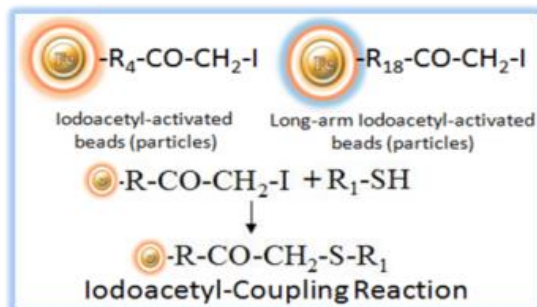

Fig.1 Iodoacetyl-sulfhydryl group coupling reaction
**BcMag™ Iodoacetyl-activated Magnetic Beads** are uniform, silica-based superparamagnetic beads coated with a high density of Iodoacetyl functional groups on the surface. It is designed to enable fast, efficient, and covalent immobilization of protein, peptides, and other ligands through their sulfhydryl groups (-SH) for affinity purification procedures. At physiological to alkaline circumstances (pH 7.2 to 9) in either aqueous or organic solvents with 20- 30% DMSO or DMF, iodoacetyl-activated supports react with sulfhydryl groups, resulting in stable thioether bonds. These reactions are often carried out in the dark to prevent the formation of free iodine, which can react with tyrosine, histidine, and tryptophan residues (Fig.1). The hydrophilic surface ensures beads low nonspecific adsorption, excellent dispersion, and easy handling in various buffers. BcMag™ Iodoacetyl-activated Magnetic Beads are most suitable for conjugation of a larger protein. BcMag™ Long-arm Iodoacetyl-activated Magnetic Beads are recommended to conjugate small peptides because the long-arm (20-atom) hydrophilic linker may reduce steric hindrance.